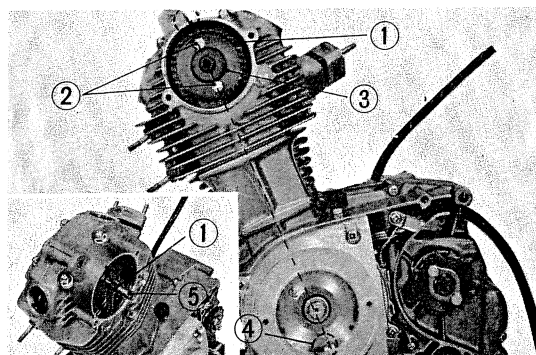

Fig. 33 ① Cam chain ② 6mm bolts ③ Cam sprocket
- 5) Position the piston at top-dead-center, loosen the cam sprocket mounting bolts and remove the cam sprocket from the cam chain. (Fig. 33)